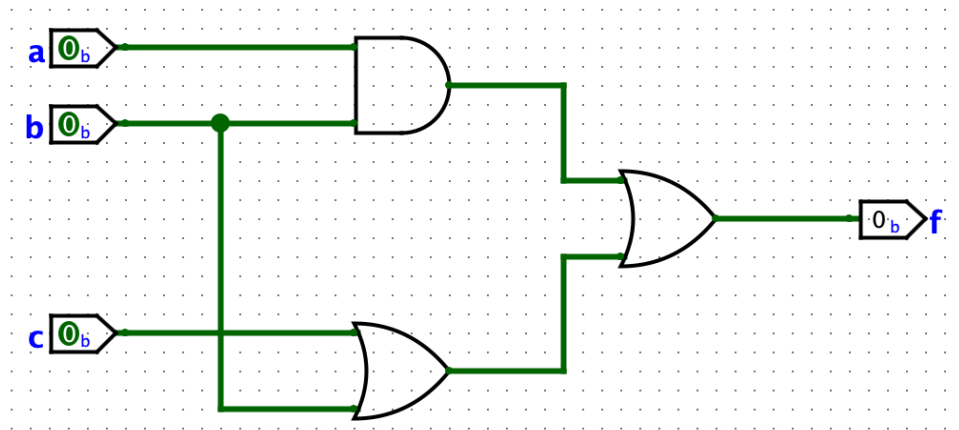

Figure 1: Schematic of the logical expression
1. Download your Logisim circuit onto the DE1-SoC board. Use switches SW_{2-0} on the DE1-SoC board as the data inputs (labeled as a, b, c in Figure 1). Connect the output to $LEDR_0$. Do not forget that you will need the `DE1_SOC.xml` file to define how the switches and LEDs connect to the pins.